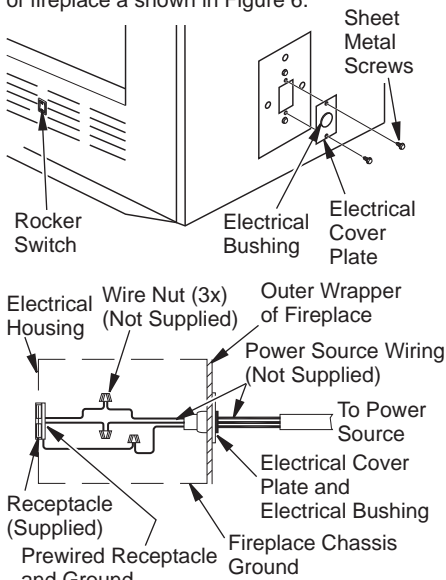

Figure 6 - Fan Switch-Electrical Bushing
Fan or blower kit is optional with this fireplace (for circulating models only). Use of blowers or fans other than those manufactured by Style Crest, Inc voids warranty. Fan is operated by pressing rocker switch (see Figure 6) in lower right hand corner of fireplace face. Blower is operated by turning control knob (not shown).
Fan/blower kit electrical connections are made through electrical cover plate on side of fireplace a shown in Figure 6.
1. Remove electrical cover plate with bushing from fireplace by removing 2 sheet metal screws as shown in Figure 6.
3. Slide all wiring connections in electrical housing as shown in Figure 6.